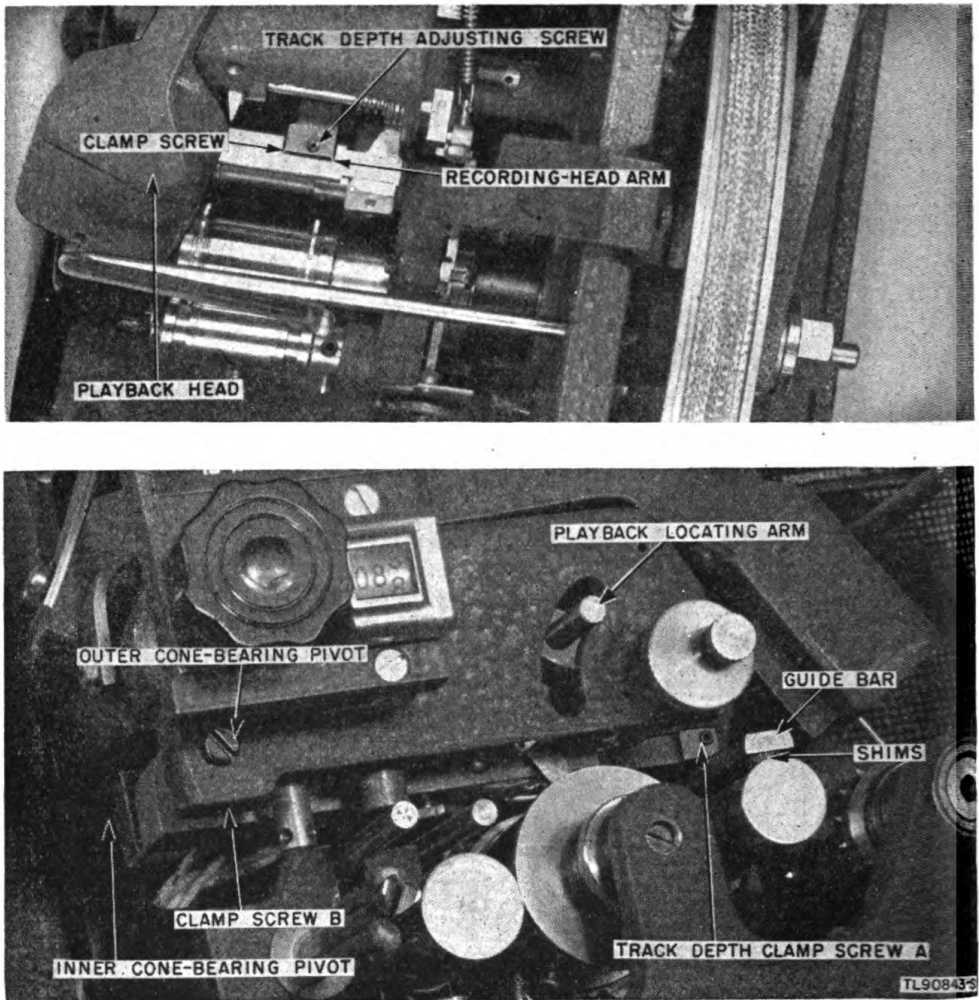

Figure 52. Recording-head adjustments.
of the groove. If mutilation exists, the needle is probably chipped or otherwise damaged. Change the needle and make more unmodulated tracks. Check again for depth. If adjustment is required, proceed as follows (fig. 52) :
(1) Push down the playback locating arm to release the playback head. Move the playback head, to the side to expose the track-depth-adjusting screw. If necessary (with selector knob on NEUTRAL) turn the index knob until the track-depth adjusting-screw clamp screw is more accessible.
(2) Loosen the clamp screw. Turn the track adjustment screw to the right to decrease the depth of the track. Turn to the left, to increase the track depth. A slight turn will affect the depth of the track considerably.
(3) Check the depth of the track as outlined above. Readjust as required. Tighten the clamp screw and lock the playback head in place with the playback locating arm.
(4) Make a recording and playback to check sound.
*d.* CHECKING AND ADJUSTING RECORDING-ARM PIVOT (fig. 52).
If the recording arm is not free to move up and down, the recording needle will not freely reach the depth of track to which it is adjusted. To check for freedom of action at the cone-bearing pivots, insert a screw driver under the recording head arm (fig. 52) (with selector knob in RECORD position) and rock arm a few times. See if the recording head returns to normal rest position freely. Adjust only if necessary. To adjust, proceed as follows (fig. 52) :